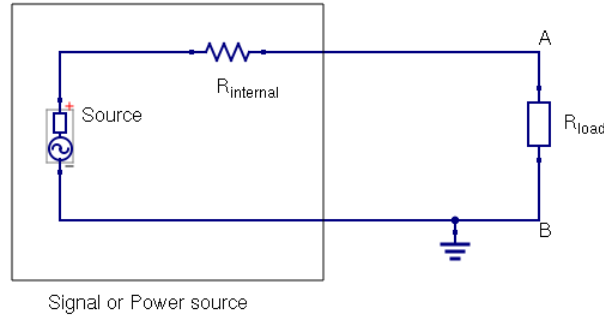

Figure 1: Load R_{load} connected to a power source or a signal generator with internal resistance, $R_{internal}$
Attaching a load to a power source or signal generator causes the output voltage to drop due to equivalent source resistance leading to undesirable effects. The concept of equivalent internal resistance applies to all sorts of sources; batteries, voltage dividers, signal sources (oscillators, amplifiers, etc.). All these devices have an equivalent source resistance. Attaching a load with resistance less than or comparable to the internal resistance will reduce the output considerably. This reduction of output by the load is called “circuit loading”. It is important to have $R_{load} \gg R_{internal}$ (see Figure 1) to minimize this effect. You will calculate the internal resistance of a signal generator at two different frequencies.
1. If the voltage across the source (Figure 1) when no load is connected across A and B is V_{open} and the voltage across A and B when a load is connected is V_{load} , derive an equation for V_{load} using V_{open} , R_{load} , and $R_{internal}$